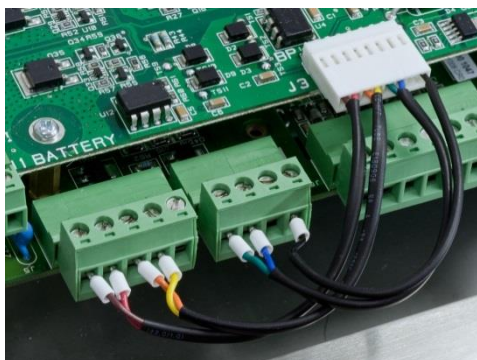

Figure A-30: IND560x-PAB (J3) to IND560x (J4/J5) Connection
8. Additional connections must be made between the J3 terminal of the IND560x-PAB and the J4 & J5 terminals of the IND560x main board (Figure A-30). Table A-8 indicates color codes for wiring the connection. Install the connector included with the IND560x-PAB kit according to these wiring codes.